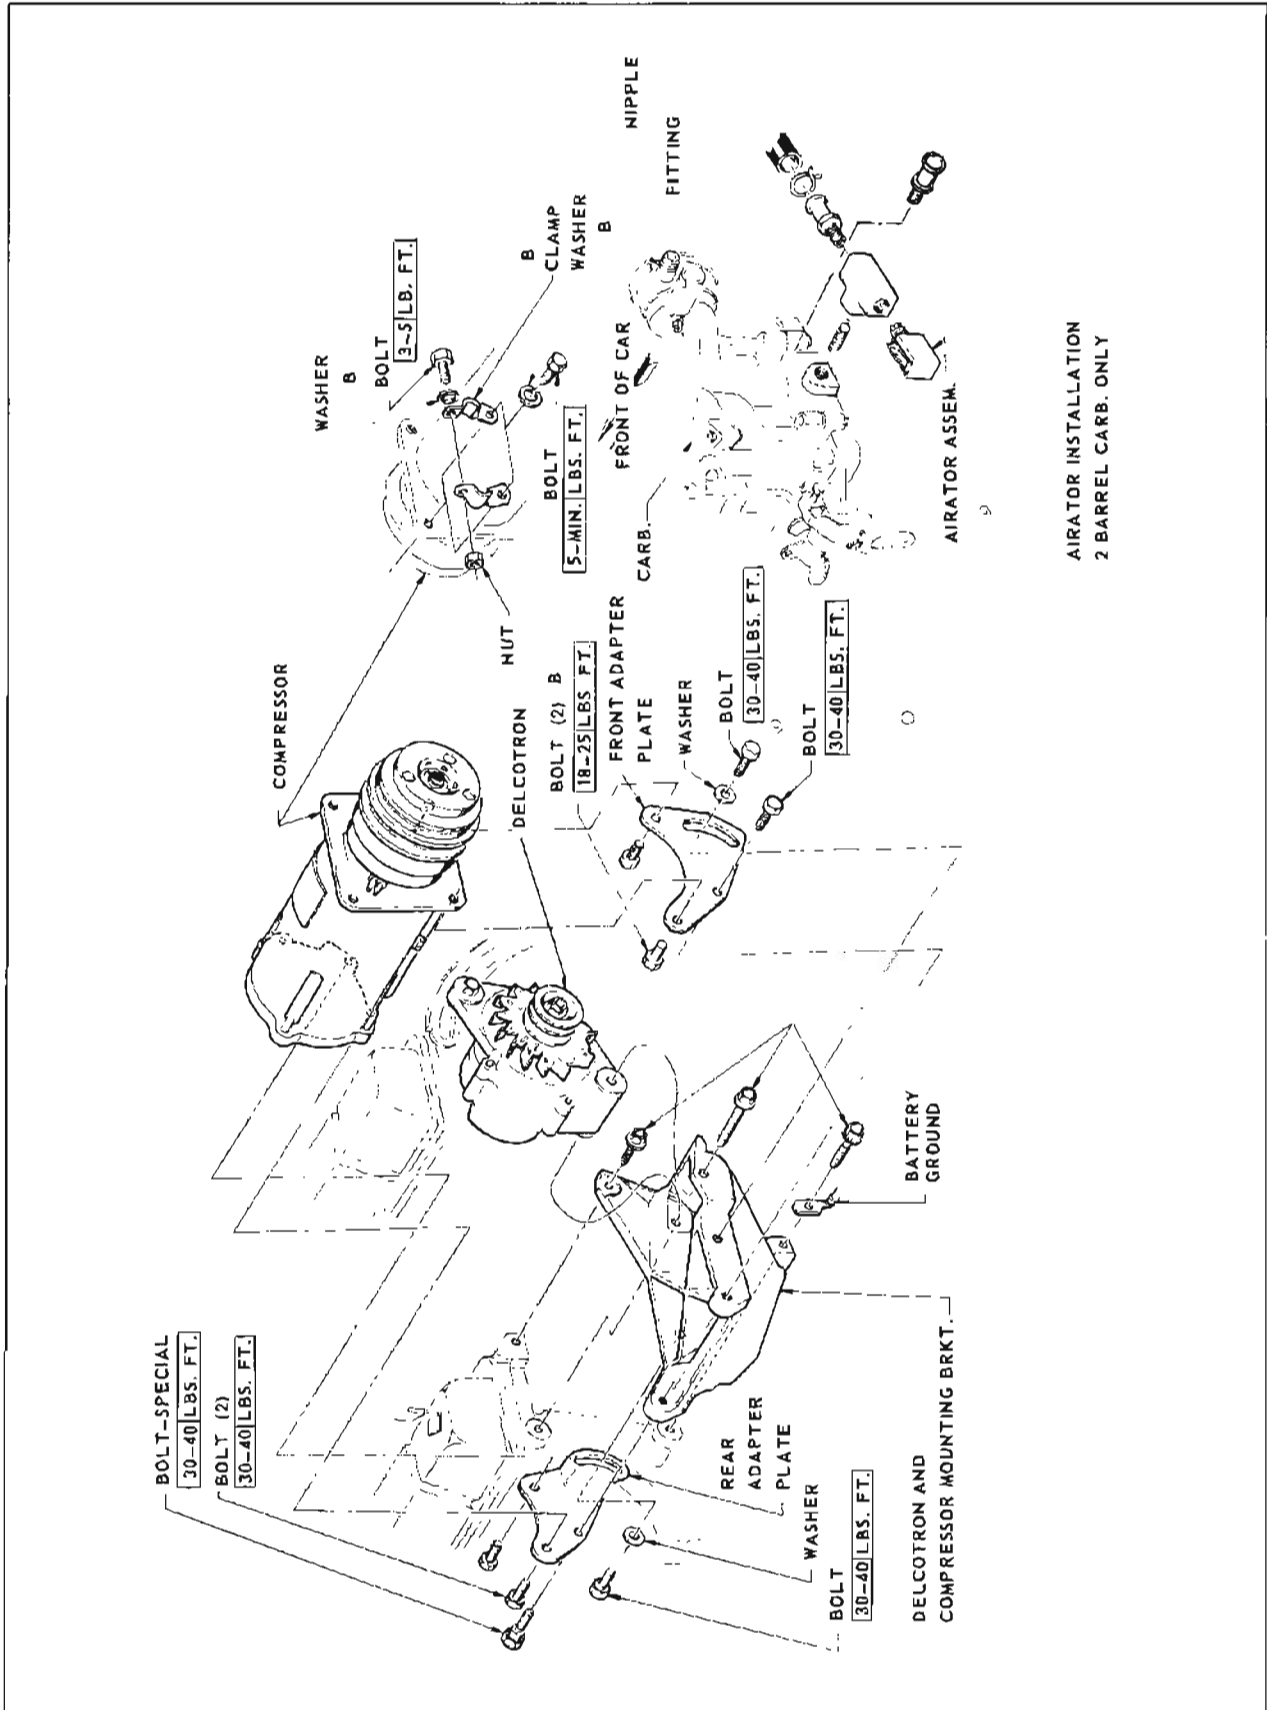

Figure 11-49—Compressor Removal and Installation
4. Remove bolt holding suction line clamp to compressor (see Figure 11-49).
7. Installation is reverse of removal. Torque bolts as specified in Figure 11-49.